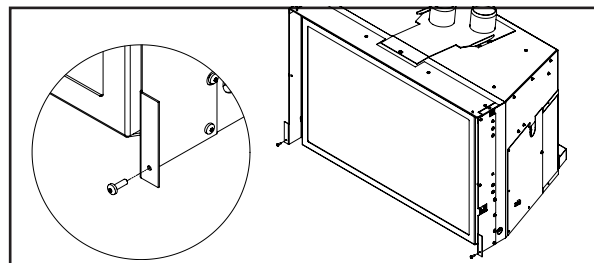

Figure 31: Trimmable Panel Screw Install.
INSTALLATION: Using a T20 screwdriver, screw one (1) #8-32 x .5" screws approximately 1/4" into the bottom of each Side Extension (see Figure 31).